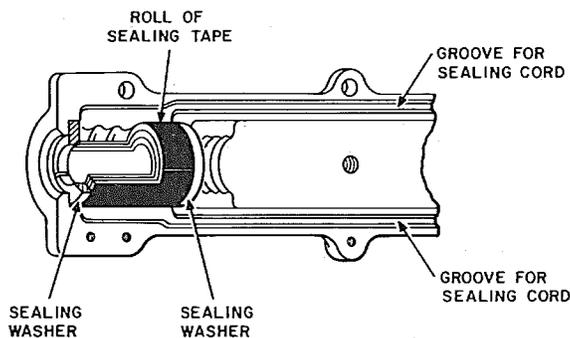

Fig. 16—Collar Placed in Splice Case
4.07 Place the back splice case so the B sealing tape collars are firmly seated and the inner sheath clamps are centered in the grooved seat of the splice case (Fig. 16).